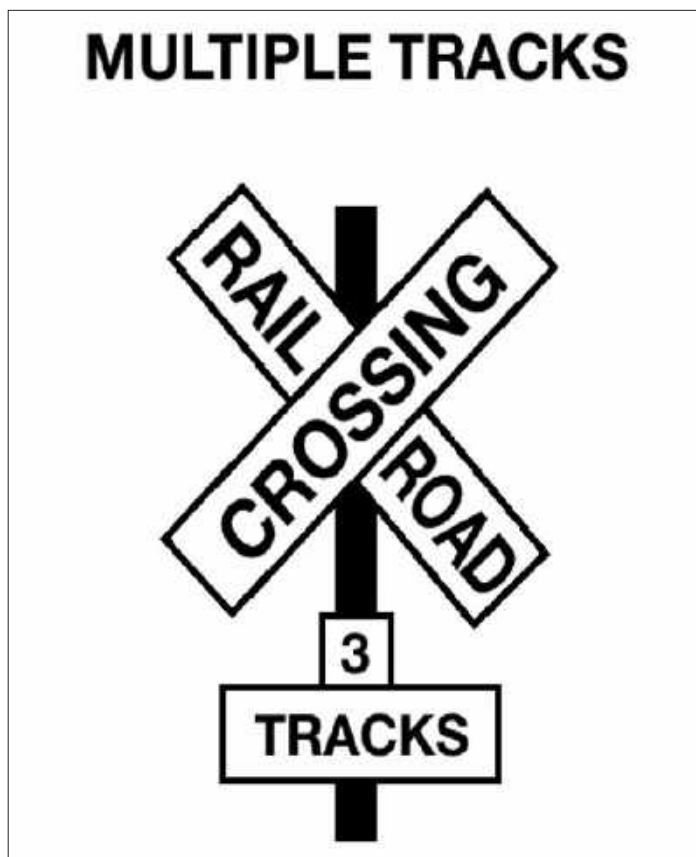

Figure 2.17
**Crossbuck Signs.** This sign marks the grade crossing. It requires you to yield the right-of-way to the train. If there is no white line painted on the pavement, you must stop the bus before the crossbuck sign. When the road crosses over more than one set of tracks, a sign below the crossbuck indicates the number of tracks. See Figure 2.17